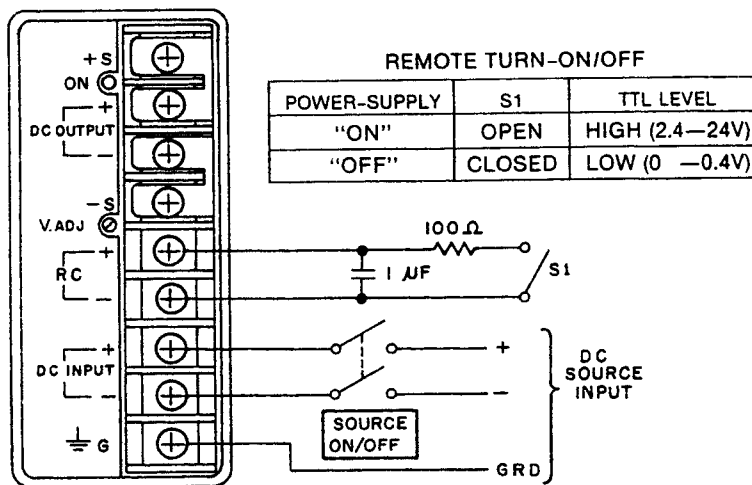

FIG. 4 CONVENTIONAL AND REMOTE SOURCE-POWER TURN-ON/OFF.
Source input power to the ERD power supply is applied in the conventional manner by means of an external power switch in series with one or both of the source input terminals, (see FIG. 4).
Following source turn-on, for systems applications the ERD power supply can be remotely programmed "on" and "off" by means of a contact closure, or TTL logic levels. This permits turn-on/off sequencing and avoids input surge current associated with conventional source power turn-on/off cycles. In FIG. 4 both the conventional and the remote d-c power turn-on/turn-off methods are shown:
- B) If the remote turn-on/turn-off method is used, retain the SOURCE POWER switch. **NOTE:** Source power turn-on/turn-off must be retained since the overvoltage protector circuit is reset, following an overvoltage condition, by removing (5 seconds minimum) and re-applying the source power. Either the indicated switch (S1) or TTL levels may be used for remote turn-on/off as indicated in the table of FIG. 4. The switch (S1) must be "chatter-free", or the indicated components should be used to integrate the switching pulse.
#### INTERNAL ADJUSTMENT (See FIG. 4 for location)